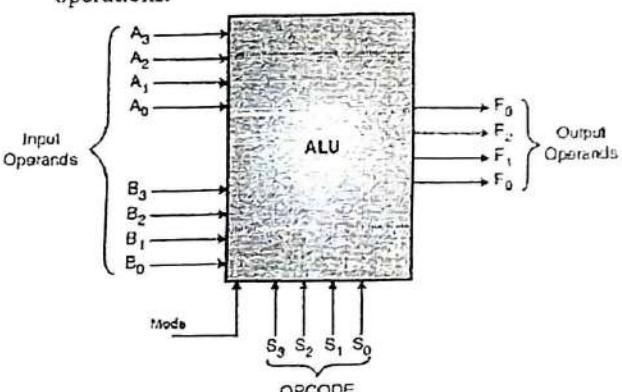

Fig. 1.1.4 : An ALU (Arithmetic logic unit)
- It consists of two inputs operands (4 bits in case of the ALU in Fig. 1.1.4) 'A' and 'B' and one output operand i.e. 'F'. 'S' are the select lines to select the operation (OPCODE). Besides these, there is also an input called as mode select for selecting Arithmetic or Logical operations.
- Now in the Fig. 1.1.4, to give an instruction to the system (ALU), the programmer has to give OPCODE and OPERAND i.e. the operation to be performed is to be given on the select lines while the data to be operated on is to be given on input operand lines.